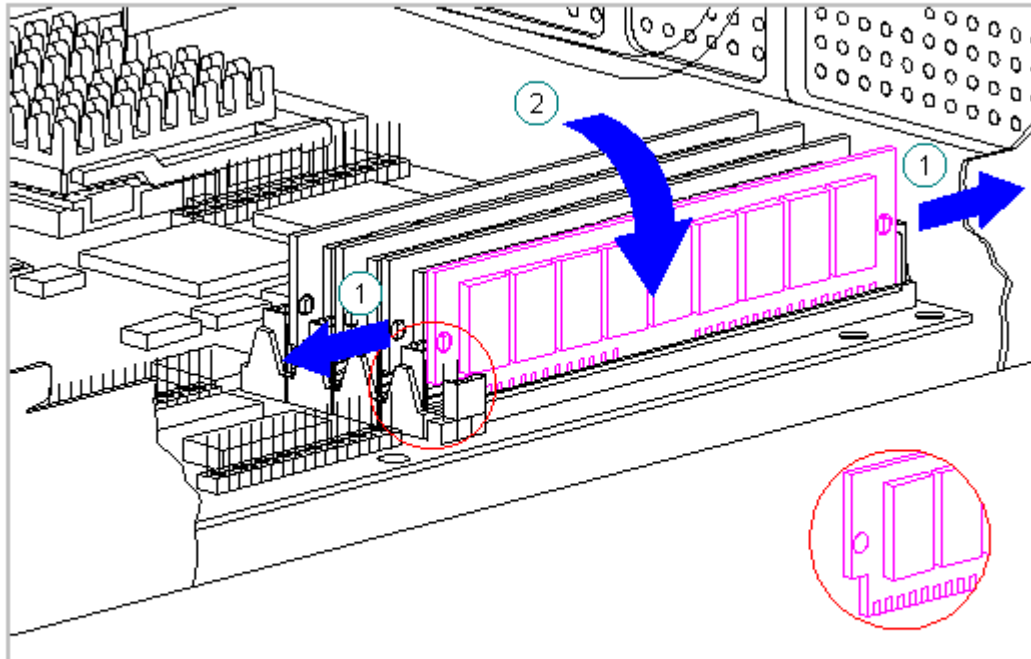

Figure 5-46. Removing the SIMM
3. Push out on the SIMM slot latches and tilt the SIMM 45 degrees from vertical and slide the SIMM out of its slot (Figure 5-46).
The notch on the left end of the SIMM (Figure 5-46) serves as an orientation indicator. Use this notch as a guide to orient the SIMM properly and reverse the above procedure to install a SIMM.